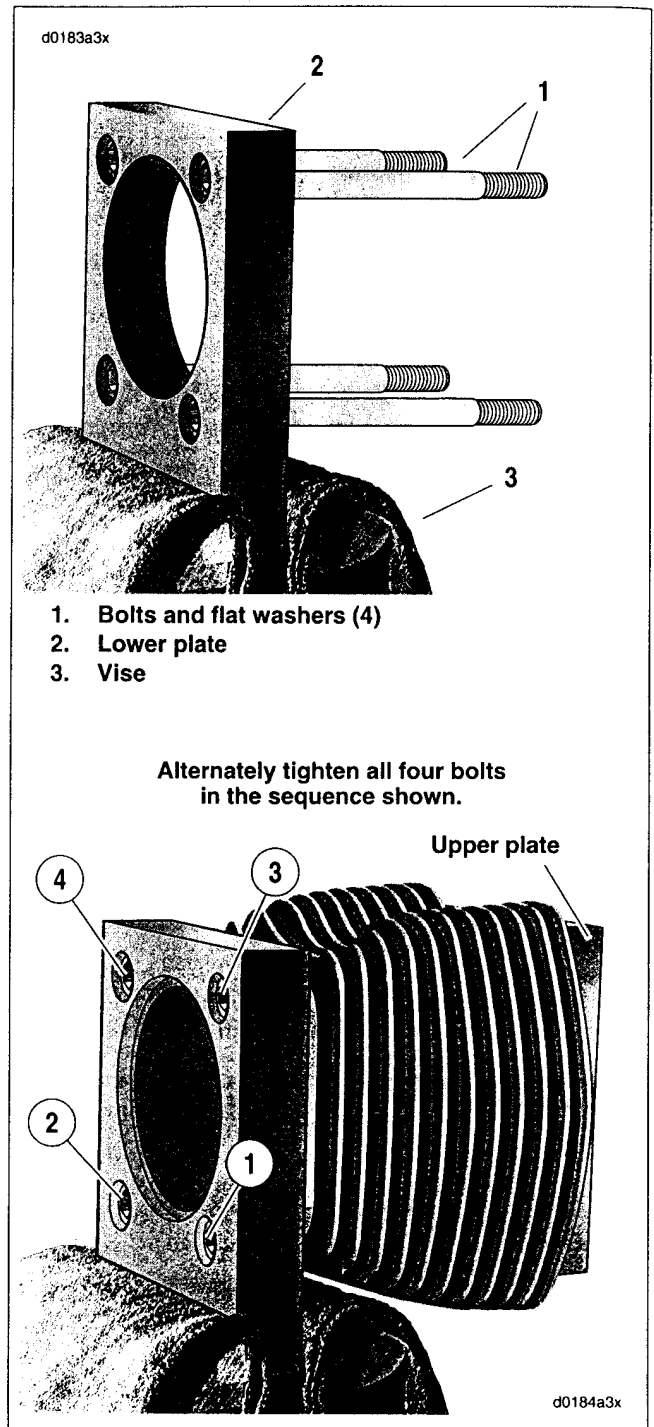

Figure 3-111. Attaching Cylinder Torque Plates
1. See Figure 3-111. To simulate an assembled cylinder for accurately measuring cylinder taper and out-of-round conditions, as well as for boring, honing or deglazing, obtain the CYLINDER TORQUE PLATES (Part No. HD-42324-A). Install the torque plates as follows:
- d. Slide four bolts with flat washers (1) all the way through holes of lower plate (2) until washers contact outboard side.
- g. Tighten the bolts to 84-108 in-lbs (9.5-12.2 Nm) in the sequence shown in Figure 3-111.
- i. Using a grease pencil, mark a straight line on one of the bolts continuing the line over onto the lower plate. Repeat step for remaining three bolts. Using the marks as a guide, turn each bolt 1/4 turn or 90 degrees. Be sure to tighten the bolts in the sequence shown in Figure 3-111.